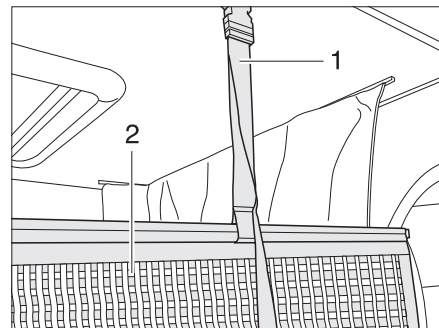

Fig. 155 Safety net holder
The safety net (Fig. 155,2) with the retaining straps is stowed under the mattress. Only use the safety net if persons are already in the pull-down bed.
- Fasten the retaining straps (Fig. 155,1) to the holders on the ceiling.